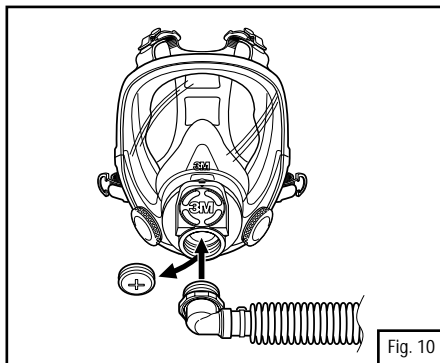

Fig. 10
3. Screw GVP-123 breathing tube elbow adapter into the center port of the 6884 adapter. (Fig. 10) Screw the breathing tube inlet into the PAPR outlet. Activate the unit by pushing the power switch on the battery pack.